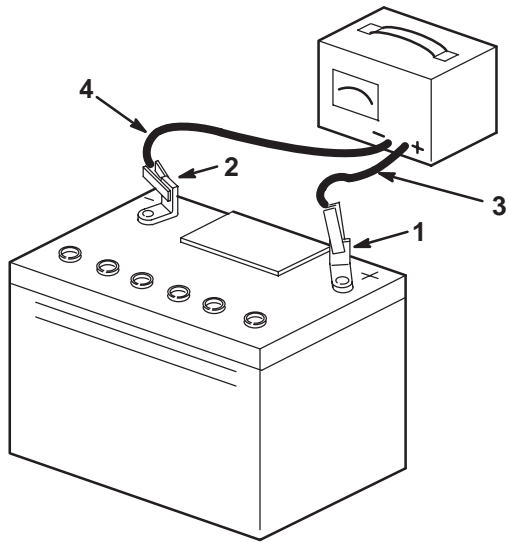

Figure 6
5. Charge the battery for 1 hour at 25 to 30 amps or 6 hours at 4 to 6 amps (Fig. 6). Do not overcharge the battery.
6. When the battery is fully charged, unplug the charger from the electrical outlet, then disconnect the charger leads from the battery posts (Fig. 6).